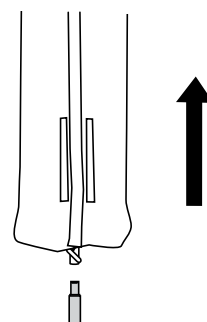

Figure 36. Removing Balloon
4. Loosen the knob and lift up balloon lighting unit to remove from the mast (Figure 36).